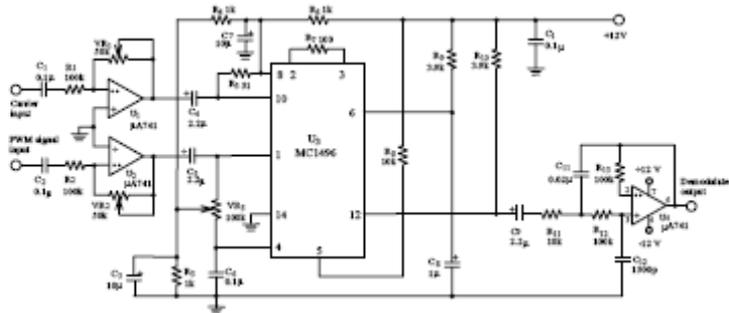

Fig. 9-4 PWM demodulator
The PWM demodulator circuit using the MC1496 product detector is shown in Fig. 9.4. This circuit is similar to the AM, SSB and DSB-SC detectors introduced before. The U_1 and U_2 amplifiers control the input amplitudes of PWM and carrier signals within the range of 300mVp to 1400mVp-pi so that the detector operates in linear region. The resistor R_7 connected between pins 2 and 3 determines the voltage gain of MC1498. The coupling capacitors C_1, C_2, C_4, C_4 ,
1. In Fig. 9.4, what are the functions of the VR_1 and VR_2 ?
2. In Fig. 9.4, what is the function of the VR_3 ?
3. As the audio frequency of Fig 9.7 goes down, what components of Fig 9.4 must be modified for normal operation?